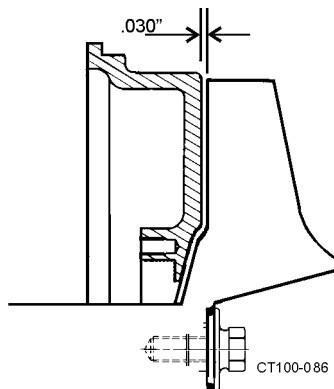

Figure 34 - Clearance Between Impeller and Backplate
- Check impeller/backplate clearance with the backplate held firmly in position against motor adapter. Check the space between the back of the impeller and the backplate with a feeler gauge (.030 nominal) while holding the backplate tight against the bearing housing flange. (Any axial movement of the shaft should not be added to the .030 nominal clearance). (Figure 34). If needed, change this clearance by adding or removing shims. Shims